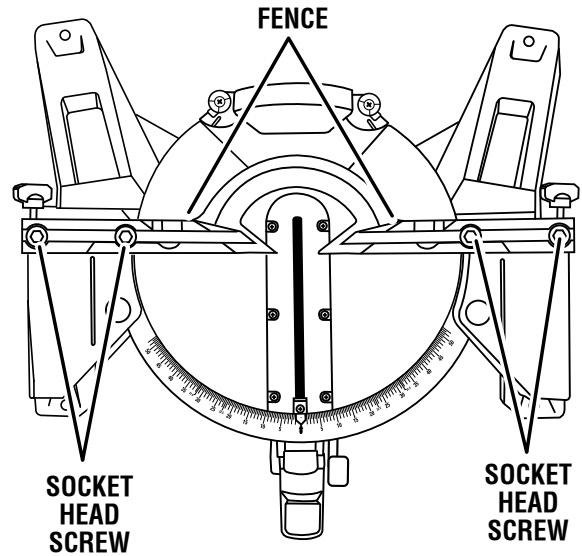

Fig. 15
- Using the blade wrench, loosen the socket head screws that secure the fence to the miter table. See figure 15.